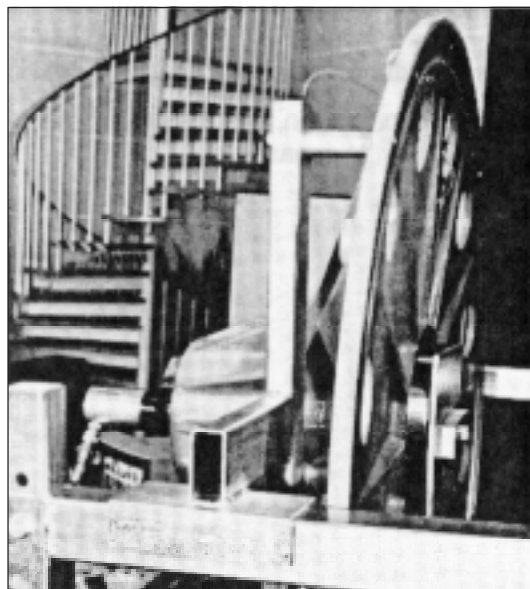

Figure 15. Installation of the large bearing
34. Assemble the large bearing in the back gable. First tap in the bearing a few mm, then install tool and press the bearing in until it bottoms, see figure 15.